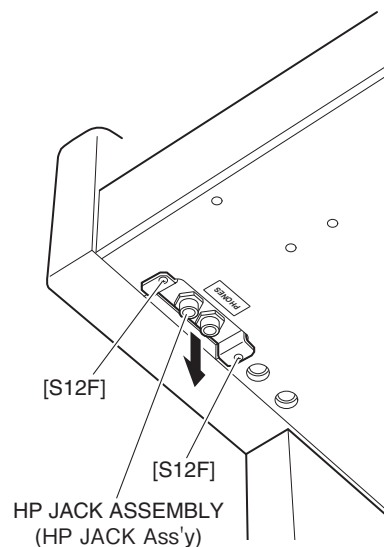

Fig. 9 (図9)
- 14-1 Remove the two (2) screws marked [S12F] from the bottom of the main unit. The HP JACK assembly can then be removed. (Fig. 9)
* **When removing the HP jack assembly, be careful not to allow HP circuit board parts to catch and pull the wire PL connected to the arm assembly (L).**
- 14-1 メインユニット下面から [S12F] のネジ 2 本を外して、HP JACK Ass'y を外します。(図 9)